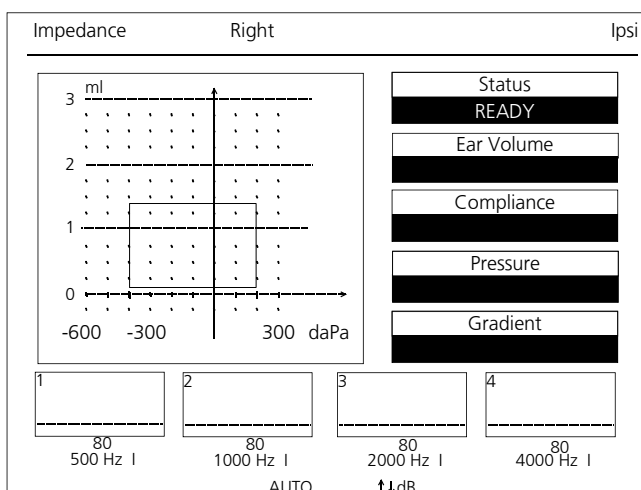

Figure 20 Display Tympanogram + Reflex (ready for measurement)
Set the desired volume level with the Down-key ⑩ respectively the Up-key ⑪. ⑫ on the LCD display ⑤ below the reflex boxes at the bottom the selected level in dB (in example figure 20, 80 dB) appears. The "I" indicates that an ipsilateral test is selected. You can choose between the fixed levels 70, 75, 80, 85, 90, 95 and 100 dBHL and AUTO with a starting level of 70 or 80 dBHL. If you choose AUTO the MI 24 starts with the lowest level 70 dBHL or 80 dBHL and increases the level automatically until a reflex is registered or the maximum value is reached. You can choose your individual starting